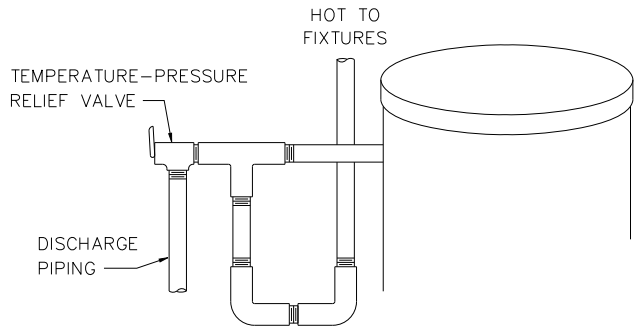

Figure 3: Hot Water Outlet
b. **Standard Domestic Hot Water Out.** Install brass tee and temperature and pressure relief valve. Do not place any valves between the temperature and pressure relief valve and the tank. See Figure 3.